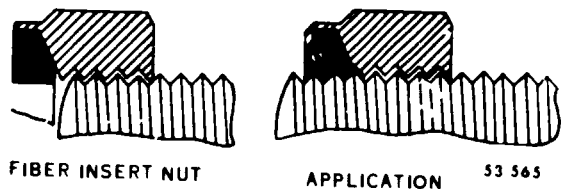

Figure 1-2 Fiber insert nut
h. Fiber insert nuts, which are the most common of the self-locking nuts. They have a fiber insert that is smaller in diameter than the bolt. When the nut is threaded on a bolt, the fiber insert expands, as shown in figure 1-2, and tightens the nut on the bolt. The fiber insert nut should not be used in a location subjected to rotational movement or near excessive heat (i.e., above 250° F).